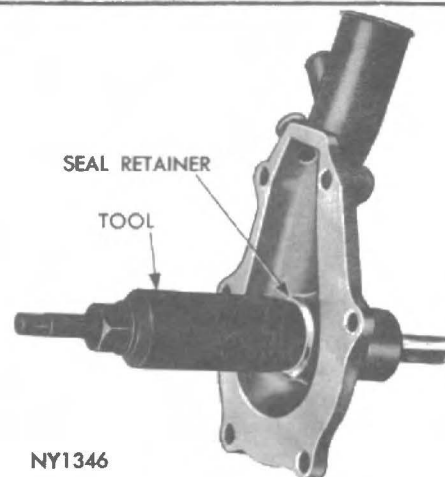

Fig. 7 - Removing seal retainer (Tool CA-3753).
(4) Remove the rubber portion of the shaft seal and the spring.
(5) Using Puller Tool CA-3753 (See Fig. 7) remove the retainer portion of the seal.
(6) Remove the fan hub using Puller Tool C-412.
(7) Support the pump body on the front face (fan hub end) and apply pressure to the rear end of the shaft to press the shaft and bearing assembly out through the front of the pump. If an attempt is made to remove the shaft in the opposite direction, damage to the pump body will result.
(8) Use a wire brush to remove all rust from the support plate. Clean all parts with a suitable solvent and dry with compressed air.